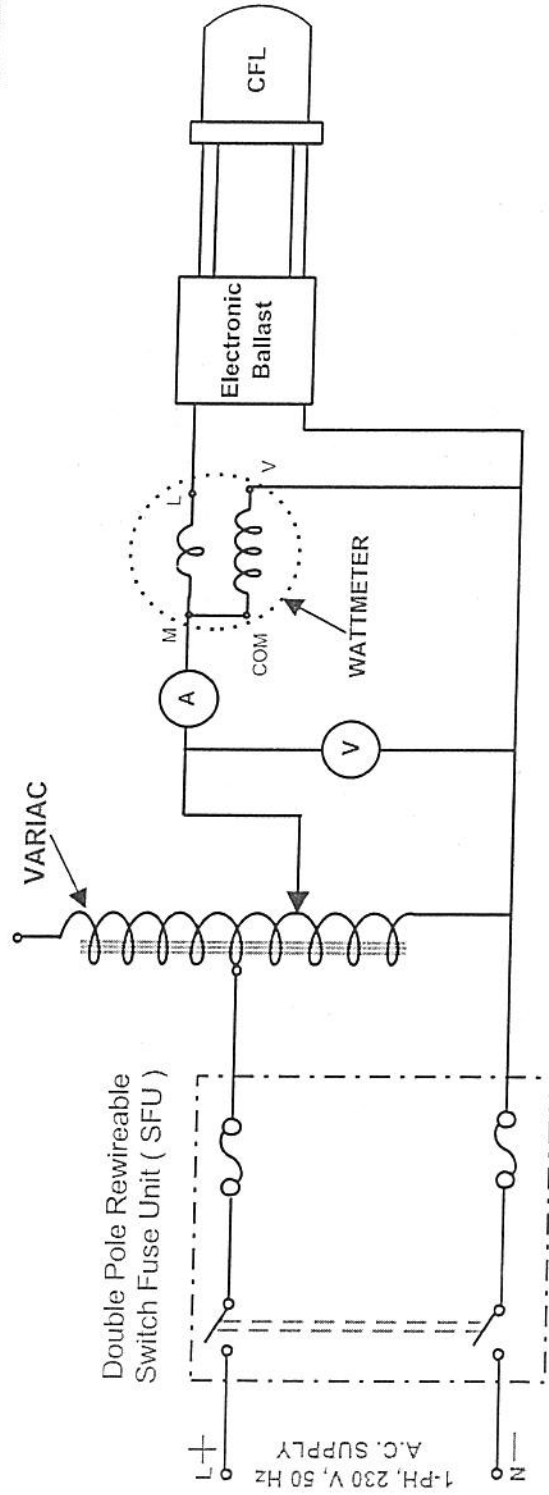

Fig. 6.4 Circuit Diagram For Determination Of Lamp Characteristic With Electronic Ballast (Compact Fluorescent Lamp)
8. Connect the Compact Fluorescent (CFL) as shown in Fig.6.4. and measure the power consumption and compare with readings for Fluorescent lamp.